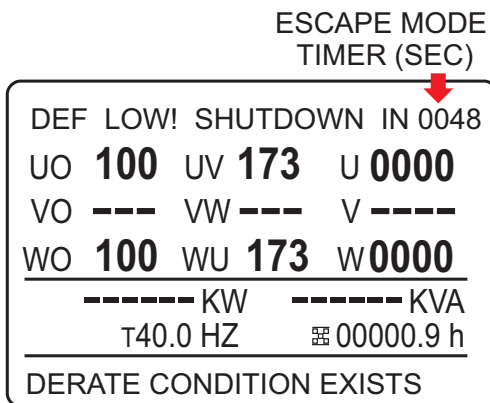

Figure 103. Escape Mode Timer
10. The **Escape Mode Timer** (Figure 103) will appear on the **main** screen. This timer displays the remaining time the unit can be operated.